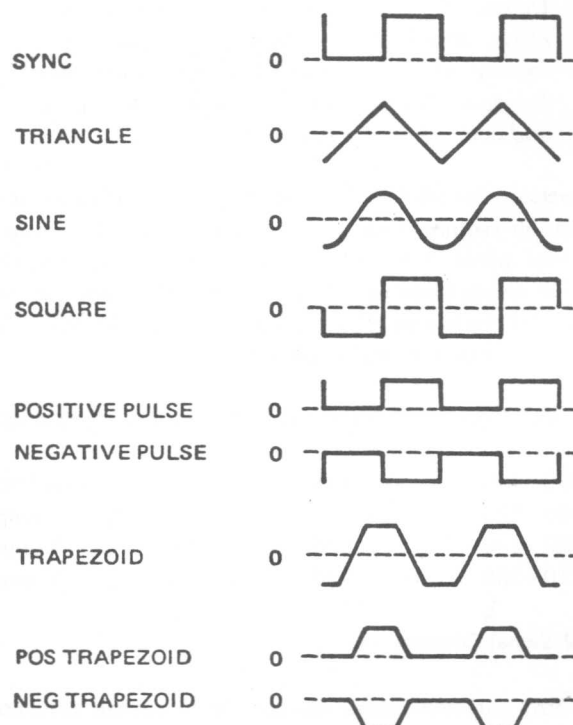

Figure 2-2. Selectable Waveforms and Sync Signal Phase and Polarity Relationships
Figure 2-2 for the sync signal relationship.
7. **SLOPE/WIDTH Control** — The small knob controls the slope of the trapezoidal waveforms. The large knob controls the time symmetry of the waveform. The setting of these controls does not affect the other waveforms. See Figure 2-2 for the sync signal relationship.
10. **50Ω OUT (HI)** — This is the selected waveform
13. **SYNC OUT** — This is a square wave (or rectangular if SYMMETRY control is in use) with the same frequency and same polarity of the selectable square wave at a 50 Ω output. Amplitude into an open circuit is greater than 4 V p-p (2 V p-p into 50 Ω). See Figure 2-2.